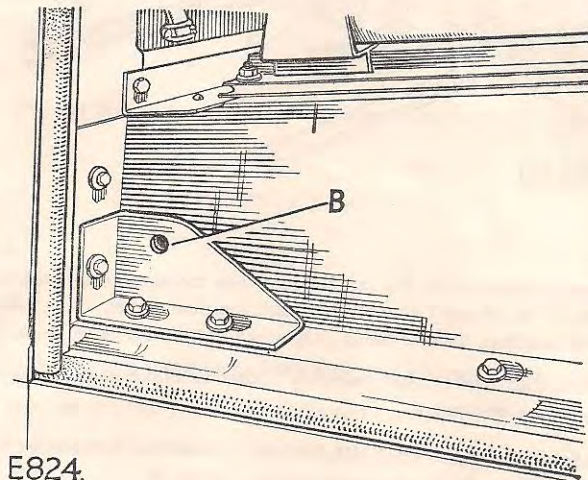

Fig. 10. Sill gusset in position. R.H. illustrate.
3. Secure the sill gusset into the corner position, with the original body fixing bolts as shown in Fig. 10.